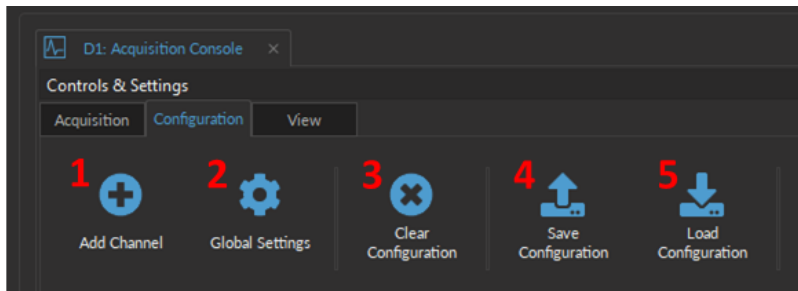

Figure 5.7: Configuration Tab
1. The **Add Channel** button (Fig. 5.7, 1) opens the **Channels configuration** window. How to *add* and *configure* a channel is detailed in Section 5.4. Table 5.1 describes different types of channels available, their use cases and their individual sections.
2. The **Global Settings** (Fig. 5.7, 2) opens the **Global Options** window in Fig. 5.8, where user can set the acquisition sampling rate and specify the master trigger options. See Sections 5.3.2.1 for more details.
3. The **Clear configuration** button (Fig. 5.7, 3) resets the acquisition view and all other parameters set. Any configurations not saved will be lost.
4. The **Save configuration** button (Fig. 5.7, 4) allows a console configuration to be saved in the **.doric** format. This file preserves the current channel configuration/parameters, the Acquisition View window organization, and any custom trace colors and names.
5. The **Load configuration** button (Fig. 5.7, 5) imports a pre-configured **.doric** file into the module.